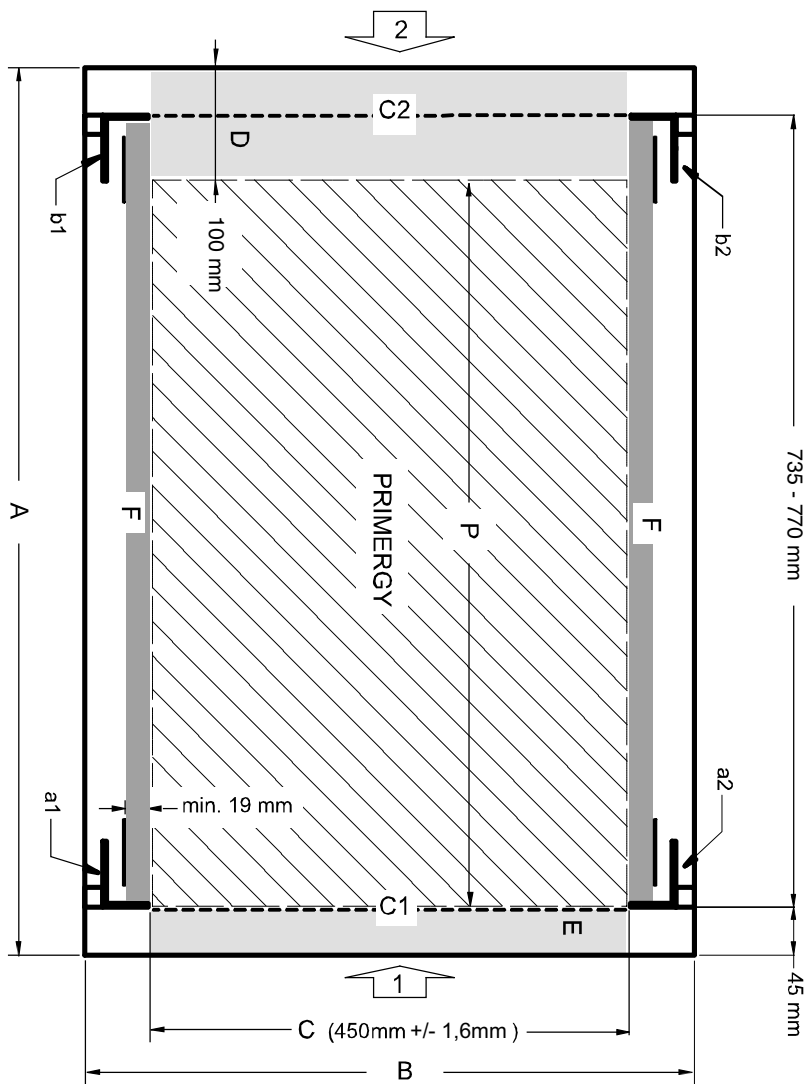

Figure 2: Mechanical requirements
– Installation dimensions (see the dimensions shown in figure 2 on page 42):